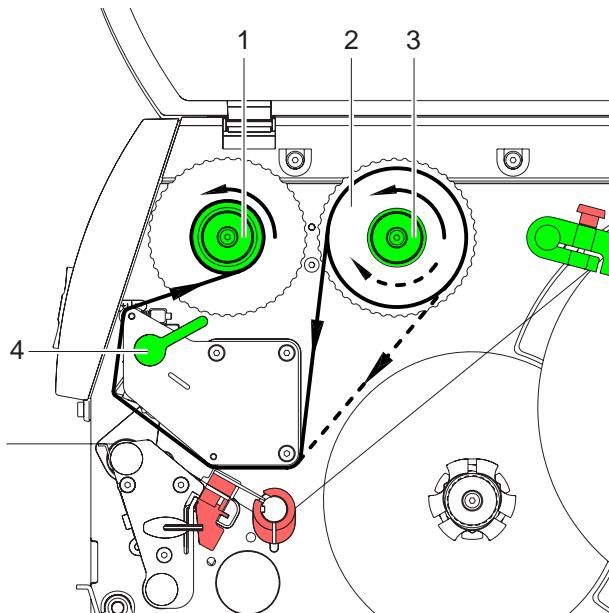

Fig. 10: Feed path of the transfer ribbon
2. Turn lever (4) counterclockwise to lift the printhead.
3. Slide transfer ribbon roll (2) onto the ribbon supply hub (3) until it stops and so that the color coating of the ribbon faces downward when being unwound. No rotation direction is specified for the ribbon supply hub (3).
4. Hold transfer ribbon roll (2) firmly and turn knob on ribbon supply hub (3) counterclockwise until the transfer ribbon roll is secured.
5. Slide suitable transfer ribbon core onto the transfer ribbon take-up hub (1) and secure it in the same way.
6. Guide transfer ribbon through the print unit as shown in Fig. 10.
7. Secure starting end of transfer ribbon to the transfer ribbon core (1) with adhesive tape. Ensure counterclockwise rotation direction of the transfer ribbon take-up hub here.
8. Turn transfer ribbon take-up hub (1) counterclockwise to smooth out the feed path of the transfer ribbon.
9. Turn lever (4) clockwise to lock the print-head.
1. Turn lever (4, Fig. 10) counterclockwise to lift the printhead.